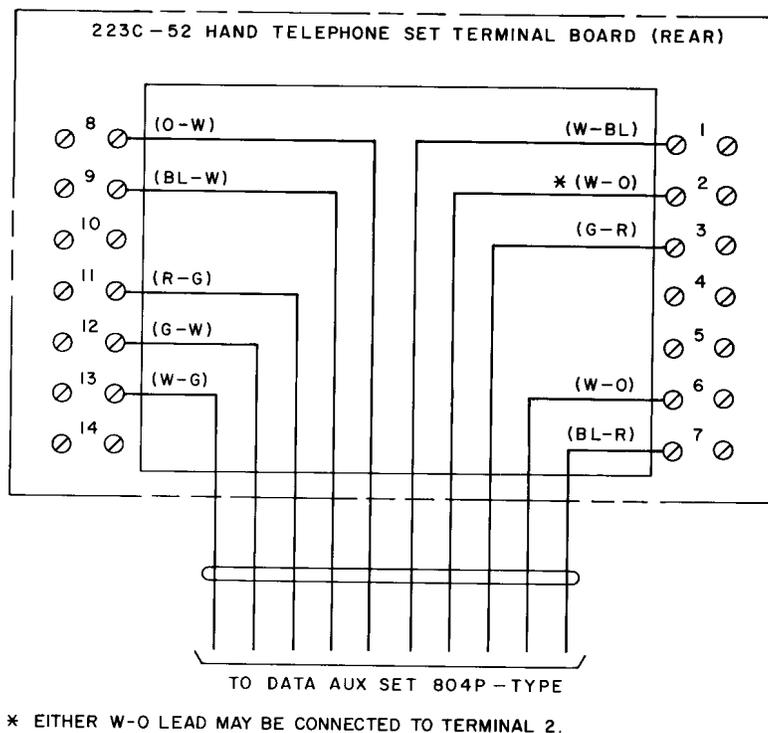

Fig. 6—223C-52 Hand Telephone Set—Connection of Data Auxiliary Set 804P-Type
3.03 Connect free arm of DAS 804P5, 6, 7, or 8 cord to terminal board on rear of 223C-52 hand telephone set as shown in Fig. 6.